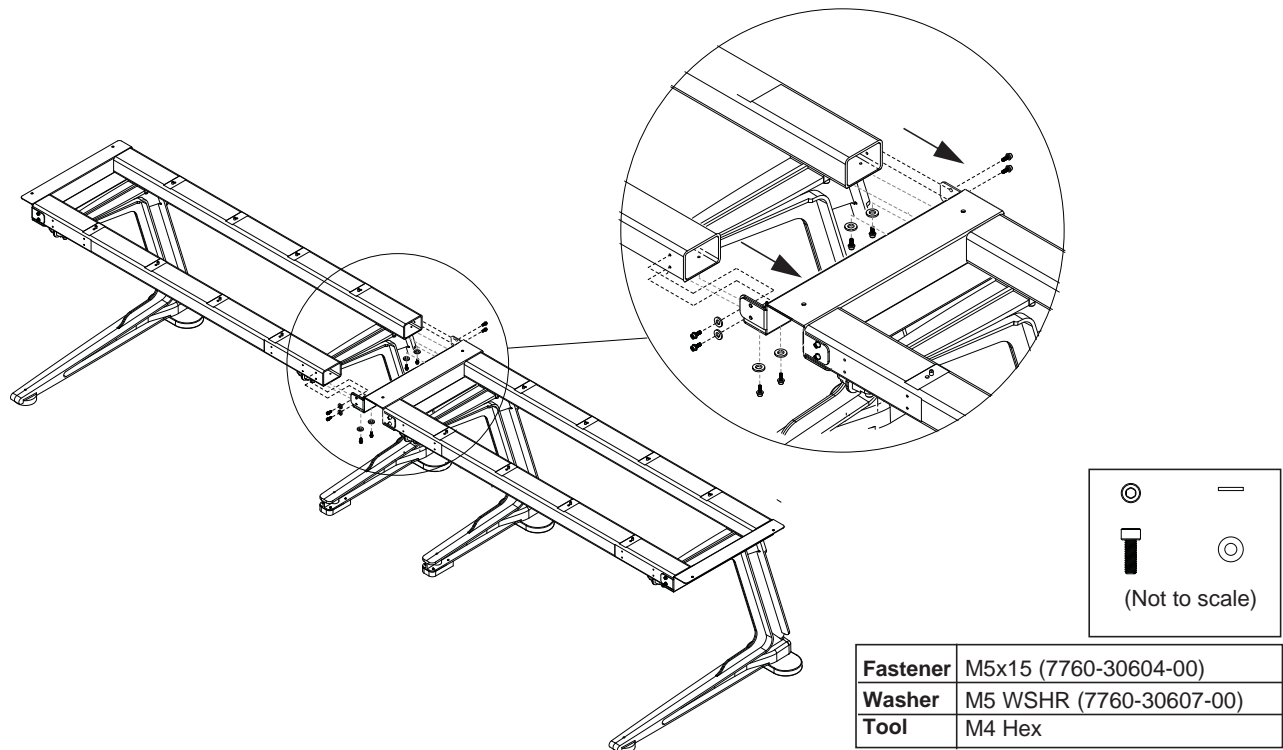

Figure 13. Attaching the left frame to the Center Bracket
- 4 Secure the left frame to the bracket using eight more fasteners and washers as shown in Figure 13. Do not fully tighten the fasteners.